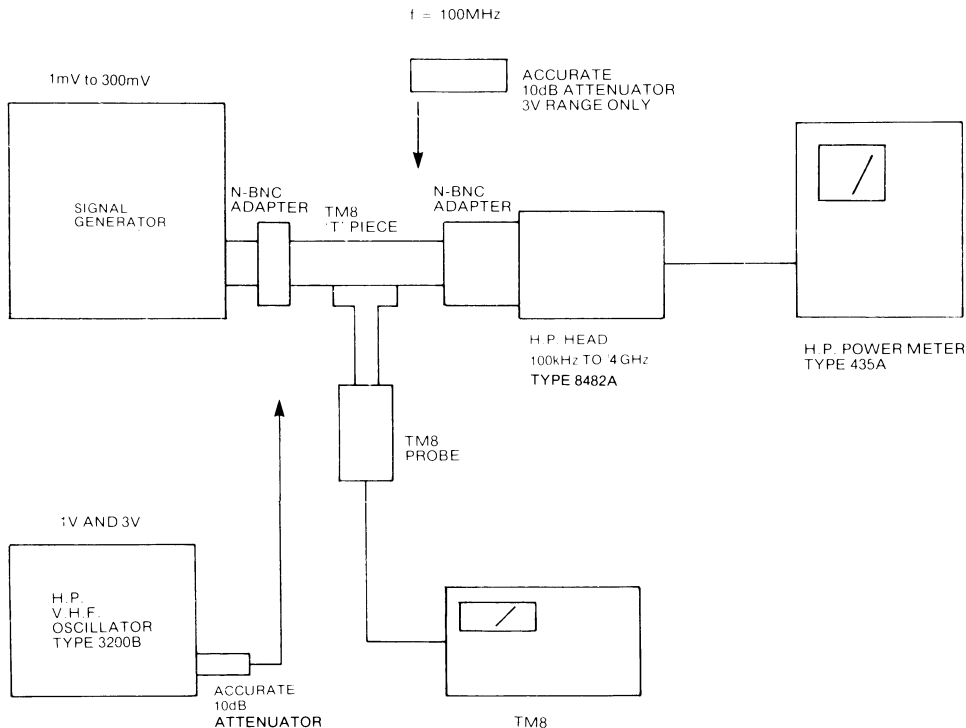

Fig 4
- Assemble the equipment of Fig. 4 (Page 14). Set the signal generator to 100MHz and adjust the output level so the power meter reads + 3dBm. Set the TM8 to the 300mV range and adjust P6 (on the I.F. Amplifier C/B) for FSD. Using the signal generator r.f. attenuator, reduce the input level by 10dBm and adjust P16 for 1/3 FSD. Remove the r.f. input and adjust P14 for zero reading. Repeat FSD, 1/3 FSD and zero adjustments until correct.